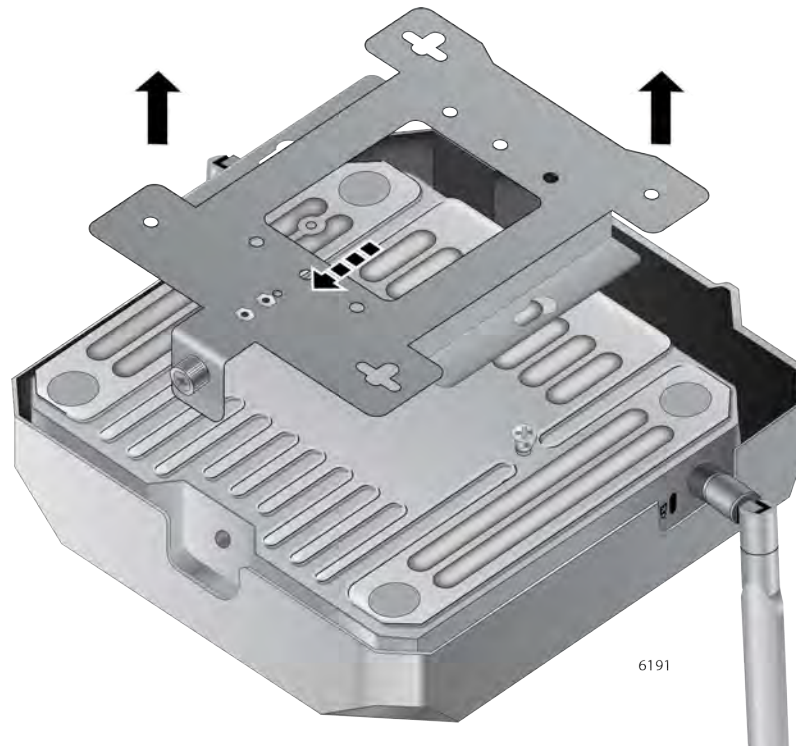

Figure 17. Removing the Mounting Bracket from the Access Point
5. Slide the mounting bracket forward and remove it from the access point. See Figure 17.